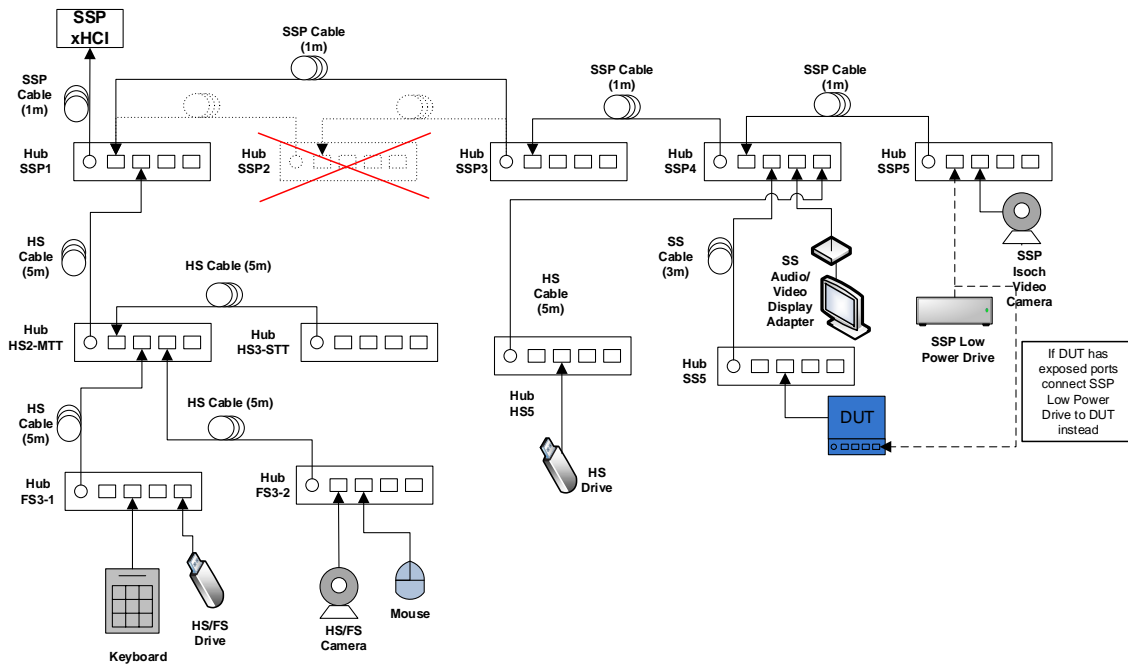

Figure 6-5: Interop Tree with Compound Device - Topology Change 1
- While operating the devices, reattach the Device Under Test to port 4 on Hub SS5 as shown in Figure 6-5 through Figure 6-12.